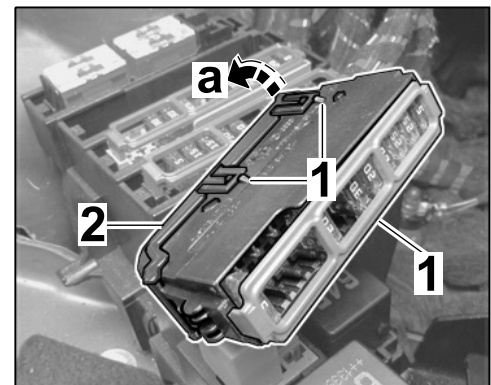

Figure 9
2.4.3 Release bottom cap from fuse strips B and C on both sides and unclip it (⇒ *Figure 9-a*).